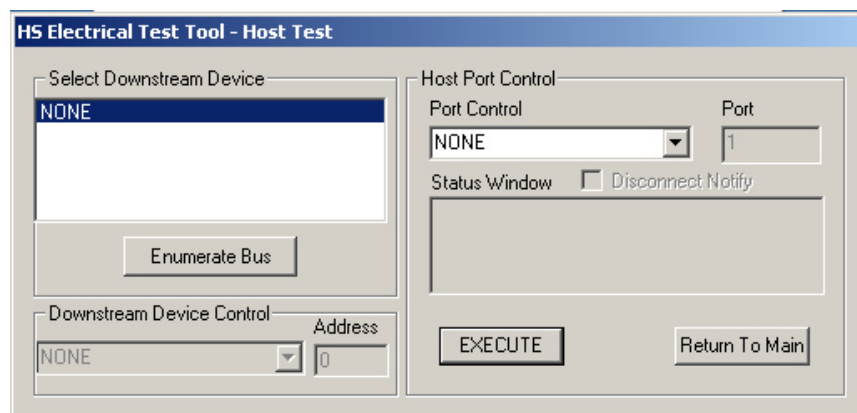

Figure 4. Electrical Test Tool Host Test Menu
6. Select Host Controller/System and click the [TEST] button to enter the Host Test menu (Figure 4)